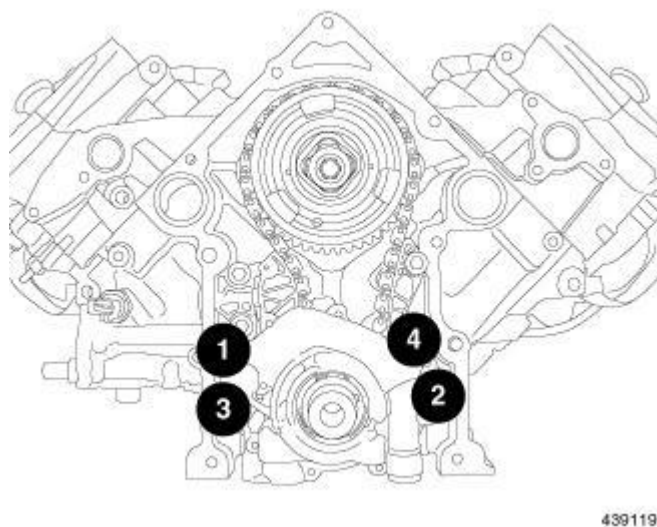

Fig. 287: Oil Pump Retaining Bolt Tightening Sequence
12. Using the sequence shown in **Fig. 287**, tighten the oil pump retaining bolts to 28 N.m (21 ft. lbs.).